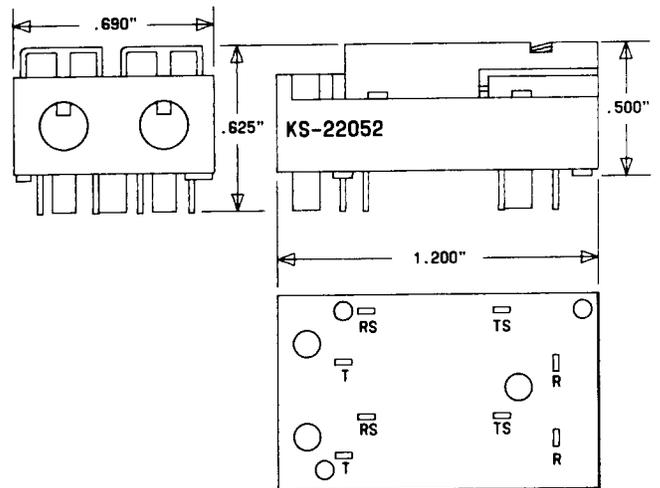

Fig. 13—KS-22052, L101, Dual Jack
- (d) **KS-22052, L101:** The KS-22052, L101, dual-jack (Fig. 13) contains two jacks each with tip, ring, and sleeve springs with break-contact on the tip and ring springs plus a monitor function for checking line status without interrupting an active circuit.